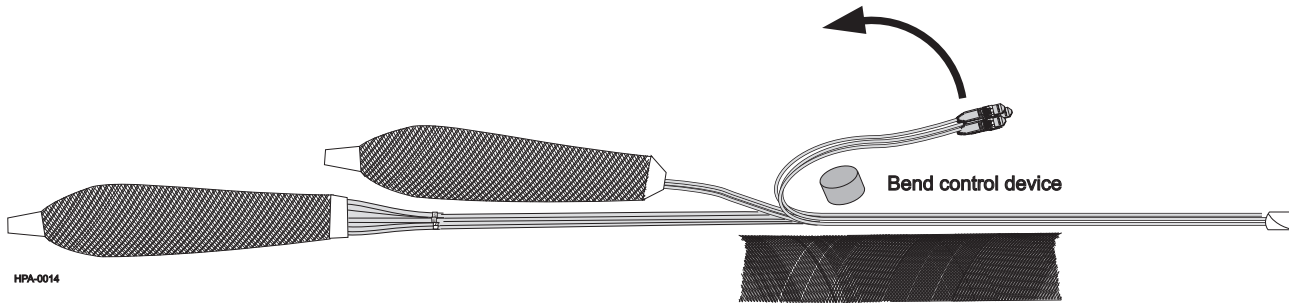

Figure 10 — Mesh Bag Removal
**Step 8:** Starting with the mesh bag closest to the furcation body, remove the tape and mesh to expose the first set of three folded legs (Figure 10). Unfold the legs from around the bend control device.